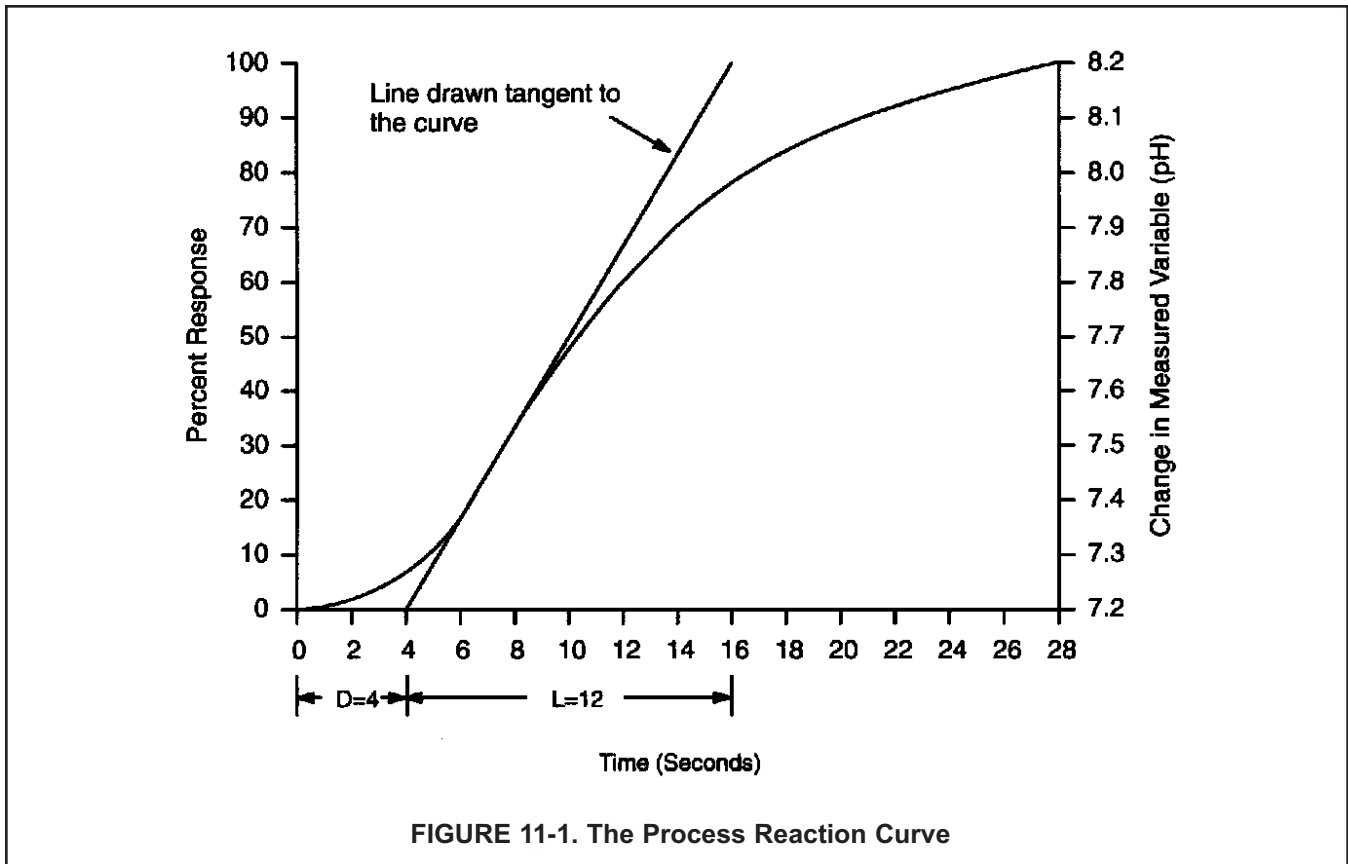

FIGURE 11-1. The Process Reaction Curve
The process reaction curve graphically shows the reaction of the process to step change in the input signal. Figure 11-1 shows an example of a tuning process for a pH controller. Similar results can be obtained for the oxygen, ozone, or chlorine controller.
Graph the change in the measured variable (concentration or pH) as shown in Figure 11-1. Observe the reading on the Model 54eA controller and note values at intervals timed with a stop watch. A strip chart recorder can be used for slower reacting processes. To collect the data, perform the following steps:
5. The reaction of the system, when graphed, will resemble Figure 11-1, showing a change in the measured variable over the change in time. After a period of time (the process delay time), the measured variable will start to increase (or decrease) rapidly. At some further time the process will begin to change less rapidly as the process begins to stabilize from the imposed step change. It is important to collect data for a long enough period of time to see the process begin to level off to establish a tangent to the process reaction curve.
A line is drawn on the process reaction curve tangent to the curve at point of maximum rise (slope) as shown in Figure 11-1. The Time Delay (D), or lag time, extends from "zero time" on the horizontal axis to the point where the tangent line intersects the time axis. The Response Time period (L), extends from the end of delay period to the time at which the tangent line intersects the 100% reaction completion line representing the process stabilization value. The ratio (R) of the Response Time period to the Time Delay describes the dynamic behavior of the system.
In the example shown in Figure 11-1: